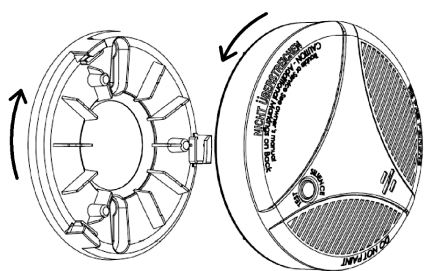

Figure 7: Removing the bracket
2. Remove the mounting bracket from your unit by rotating it counter-clockwise, shown in Figure 7.